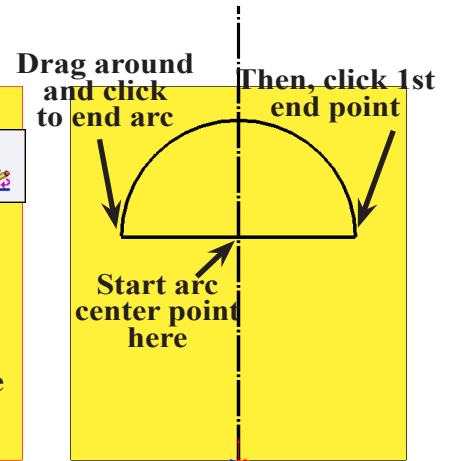

Fig. 29
Step 12. Click **Centerpoint Arc**  (S) in the **Arc flyout**  on the Sketch toolbar.
Step 13. Click the midpoint of the horizontal line (at centerline) to start the arc and move the cursor to the right endpoint of the line. Click to place the first end point, then move cursor counterclockwise. Click to place the second end point, **Fig. 29**.